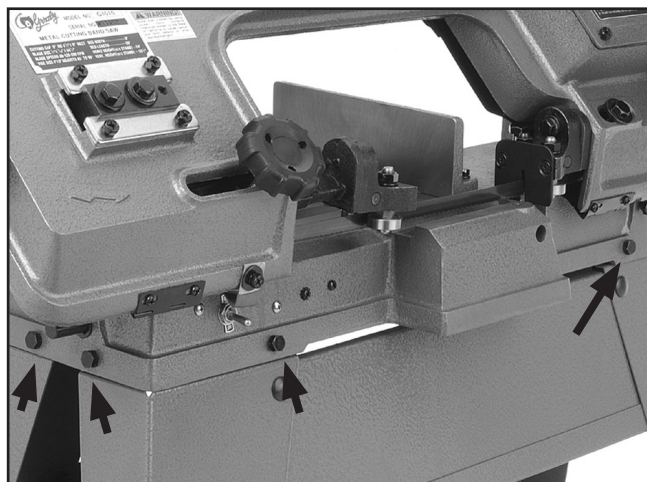

Figure 12. Front view of bolt locations.
3. Attach the bandsaw to the stand with 8 hex bolts, 16 flat washers and 8 hex nuts and tighten with a 12mm wrench (see **Figure 12**).